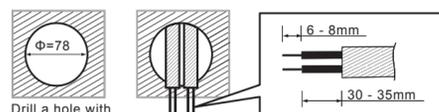

FIG.9
3.4.2.1 To install the sensor, please drill a hole with diameter of 78mm on ceiling board and keep the power cable outside. Please strip off 6 - 8mm of cable sheathing for wiring (See FIG.9).